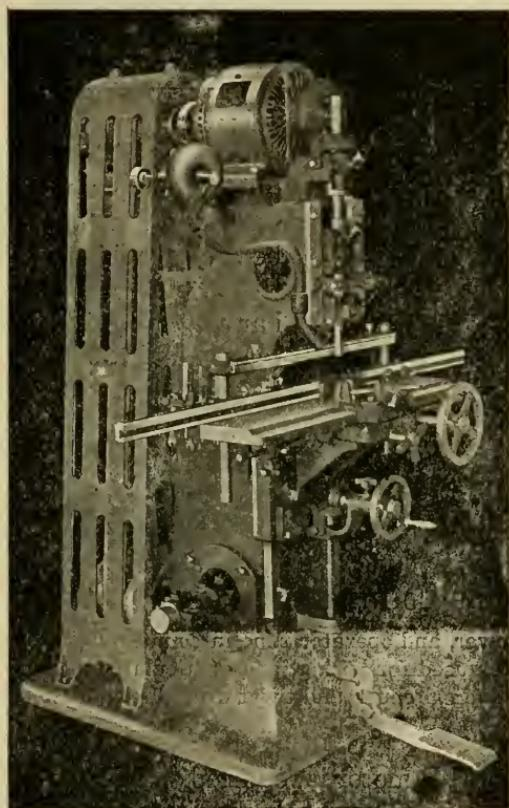

Fig. 46:- Automatic Vertical Mortiser; Motor D. C. Connection, enclosed switch and rheostat.
47. Speed and Power-- A 2 to 3 H P. motor is required. The counter shaft should be run at a speed of 900 rpm. which will give the bit a speed of 3500 to 4000 rpm. Fig. 46 shows a D.C. motor connection with enclosed switch and rheostat. When ordering machines which are to have a motor base, it is necessary that the manufacturer be informed in regard to the make of motor which is to be used.